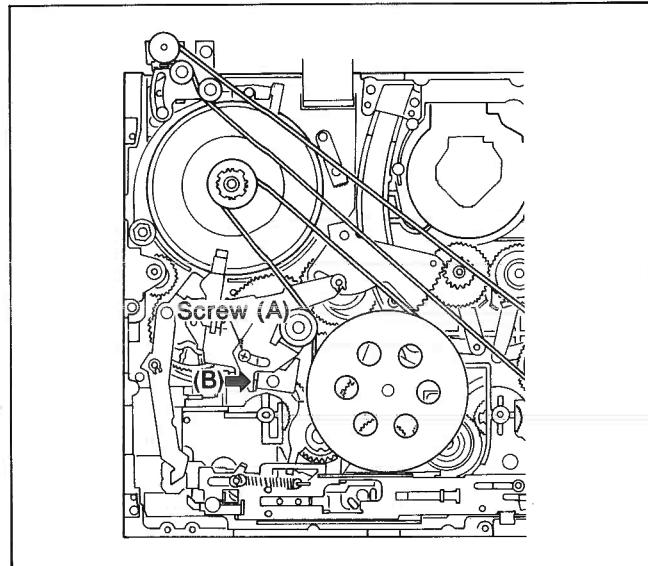

Figure M31
1. Loosen a screw (A) slightly by using the screwdriver.
2. Set the Fan Type Tension Gauge to the direction indicated by the arrow (B) as shown in Figure M31.
3. Tighten a screw (A) when the reading of the Fan Type Tension Gauge becomes within 40 +/- 5g.